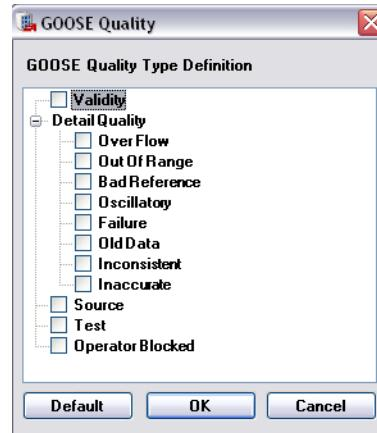

Figure G.3 GOOSE Quality
The SEL-849 uses GOOSE quality attributes to indicate the quality of the data in its transmitted GOOSE messages. Under normal conditions, all attributes are zero, indicating good quality data. *Figure G.3* shows the GOOSE quality attributes available to devices that subscribe to GOOSE messages from SEL-849 datasets that contain them. Internal status indicators provide the information necessary for the device to set these attributes. For example, if the device becomes disabled, as shown via status indications (e.g., an internal self-test failure), the SEL-849 will set the Validity attribute to invalid and the Failure attribute to TRUE. Note that the SEL-849 does not set any of the other quality attributes. These attributes will always indicate FALSE (0). See the ACCELERATOR Architect online help for additional information on GOOSE quality attributes.